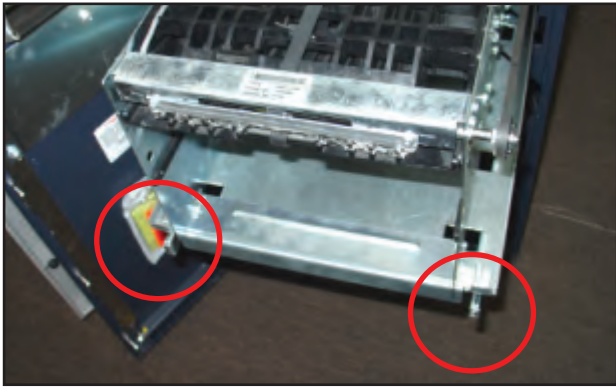

Figure 6
6. Slide rear of SDD into flange at rear of deck. Lower front of SDD onto two threaded studs and secure with wing nuts, (see figure 6).